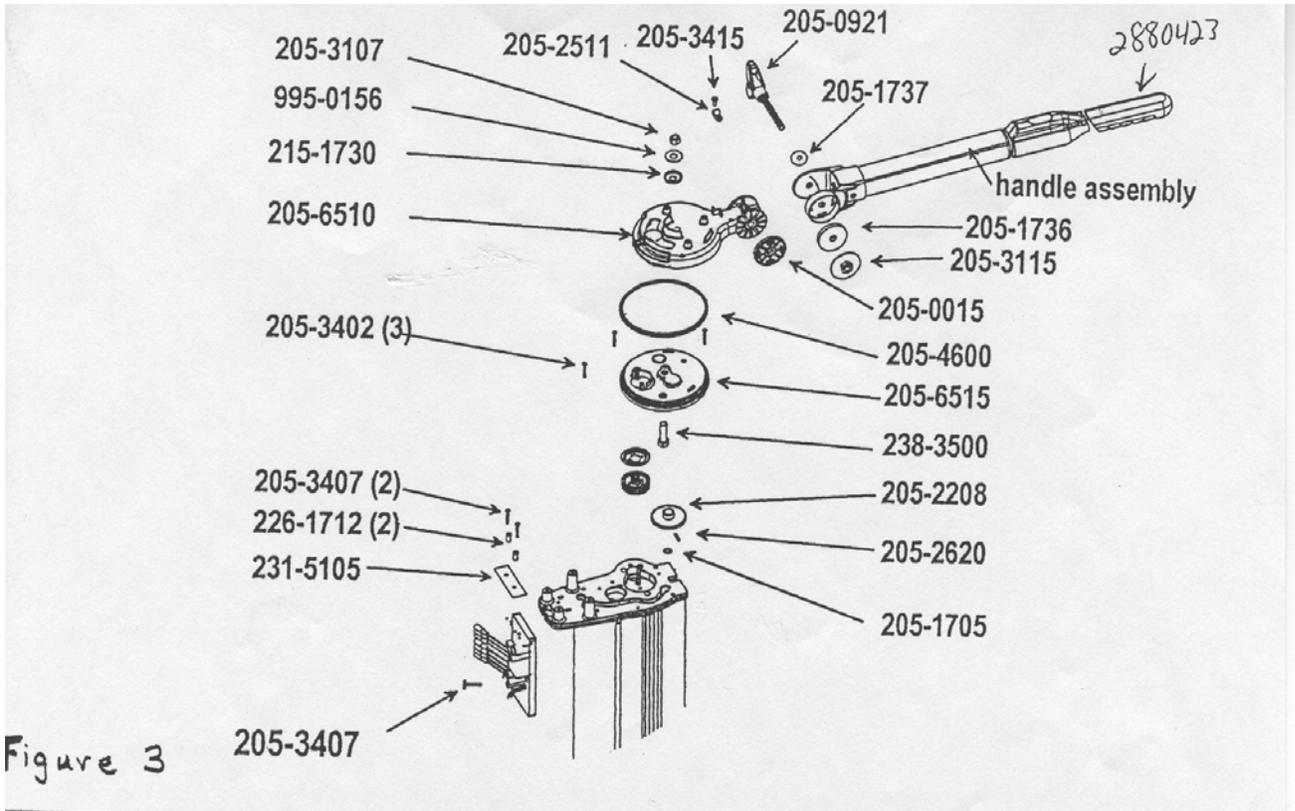

Figure 3
Step 3. Disconnect the coil cord wires from the main control board. Using a 9/16" socket or box end wrench, unscrew the top lock nut (P/N 2053107). Remove the flat and cup washers. Lift off the gear housing upper cap (P/N 2056510) and gear housing ring. Unscrew the three screws (P/N 2053402) and remove the lower gear housing cap (P/N 2056515) along with the gear housing o-ring (P/N 2054600). (See **figure 3, page 10-7.**) Removing the gear housing cap exposes the steering gear and the lift belt/flange pulley/lift gear assembly of the Vantage motor lift system.
- g.** Disconnect the motor leads and lift motor wires from the control board. Remove the 2 control board mounting screws and insulating washers (P/N 2053407 and 2261712). (**See figure 3, page 10-7.**)